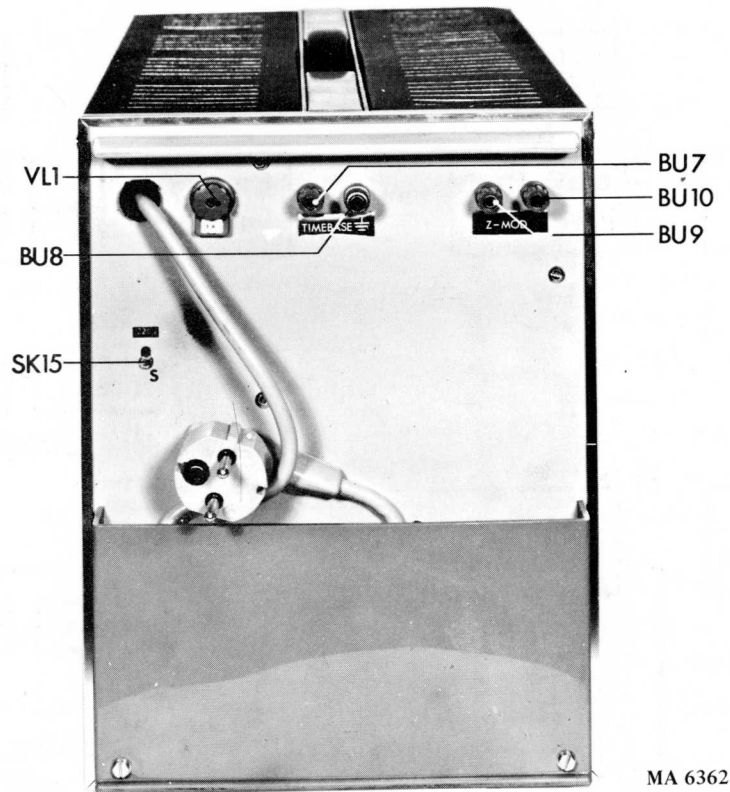

Fig. 3. Rear view
- Slightly loosen screw "S" (Fig. 3).
### B. FUSE (VL1, Fig. 3)
## A. CONTROLS, SOCKETS AND THEIR FUNCTIONS (see Figs. 3, 4)